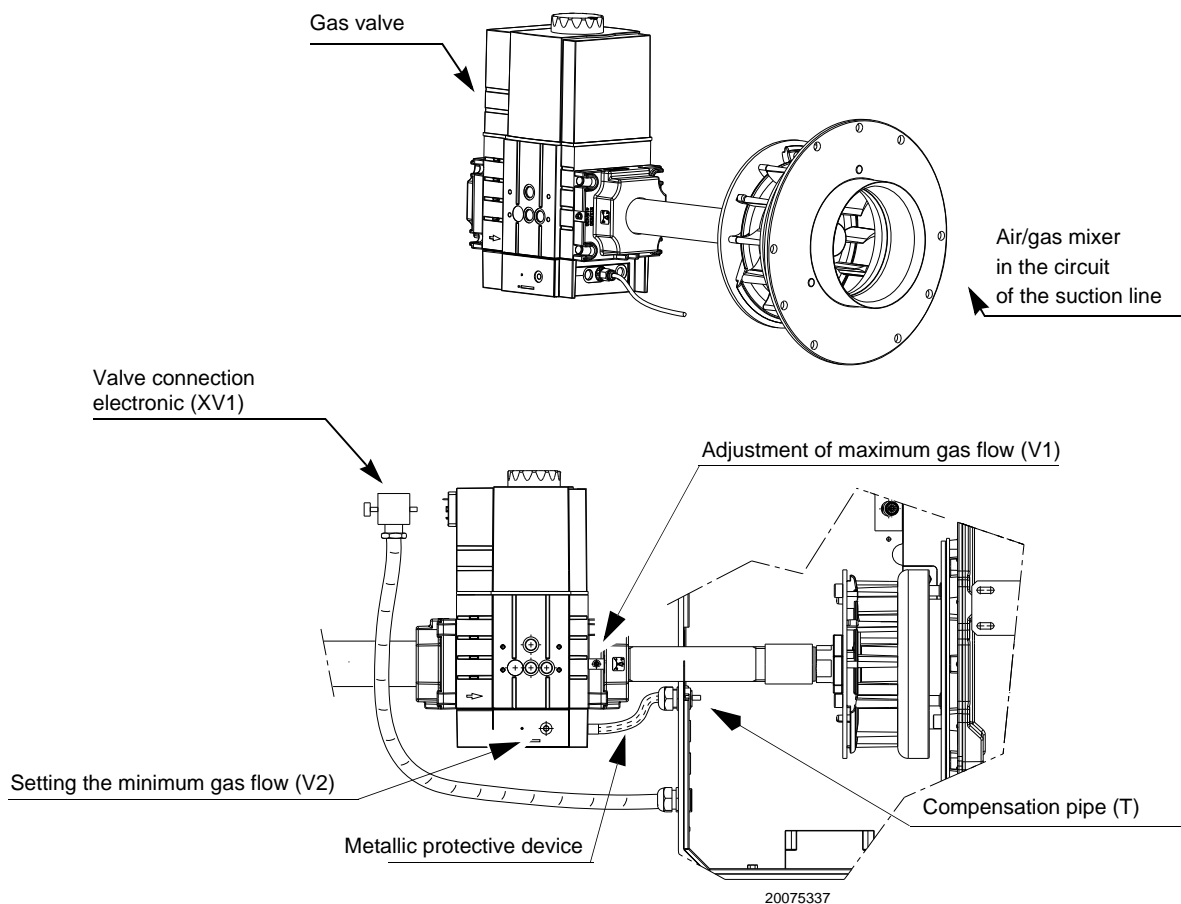

Fig. 18
- bleed the air from the gas pipes using the screw on the socket (Fig. 18).